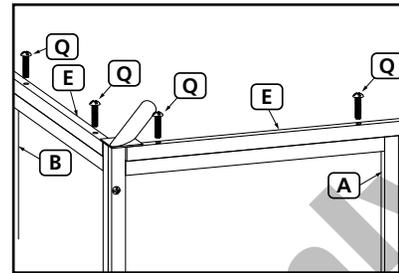

Fig. 2
Insert two M6x30mm Bolts (Q) through eyelets that are furthest apart at one end of Crossbeam (E), and into the bolt-threading inserts found at the top of Right Panel (A), see Fig. 2.